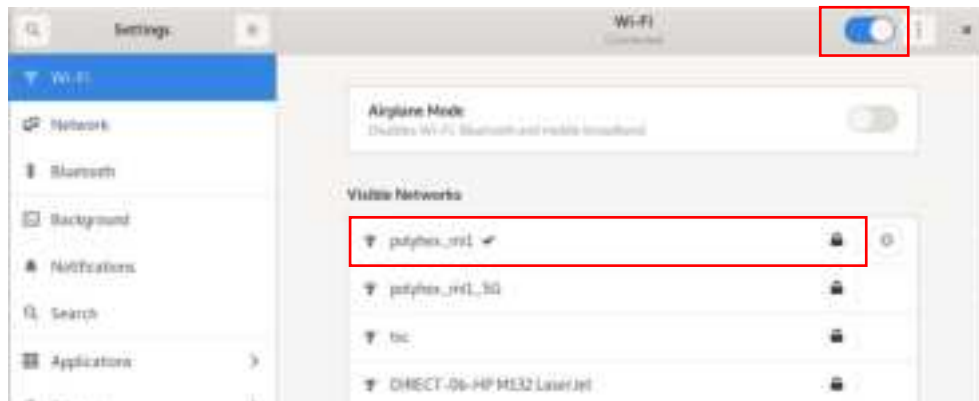

Figure 22
- Turn on the Wi-Fi function, as shown in Figure 22.